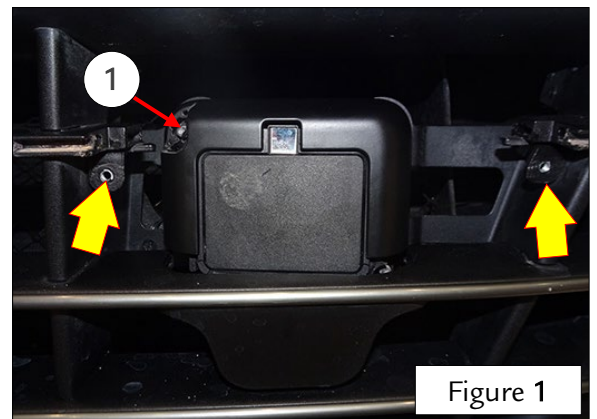

Figure 1
- Remove the section of front grill covering the front radar, undoing the fasteners indicated by the yellow arrows. Also remove the plastic cover to allow access to the radar adjustment screw (1) - Fig.1.